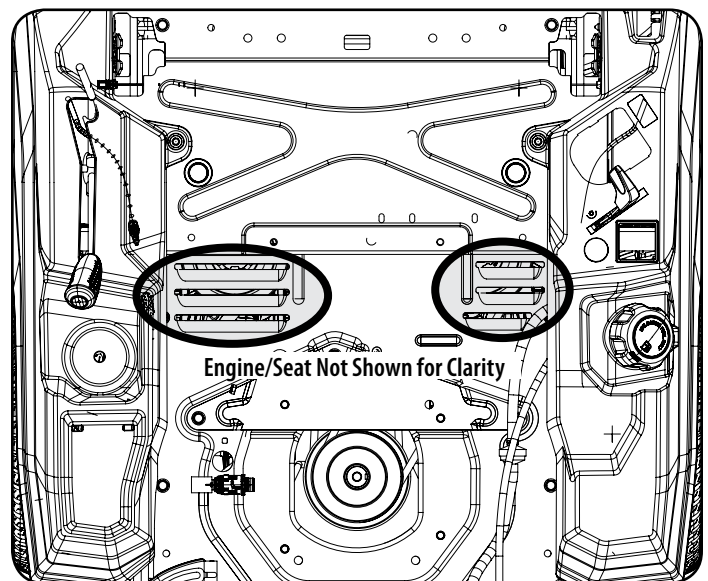

Figure 23
- Keep both sides of transmission cooling slots, exhaust manifold, around fuses, all wiring and harnesses, muffler pipe, muffler shield, engine intake screens and cooling fins, etc clear of grass clippings and leaves. See Figure 23.